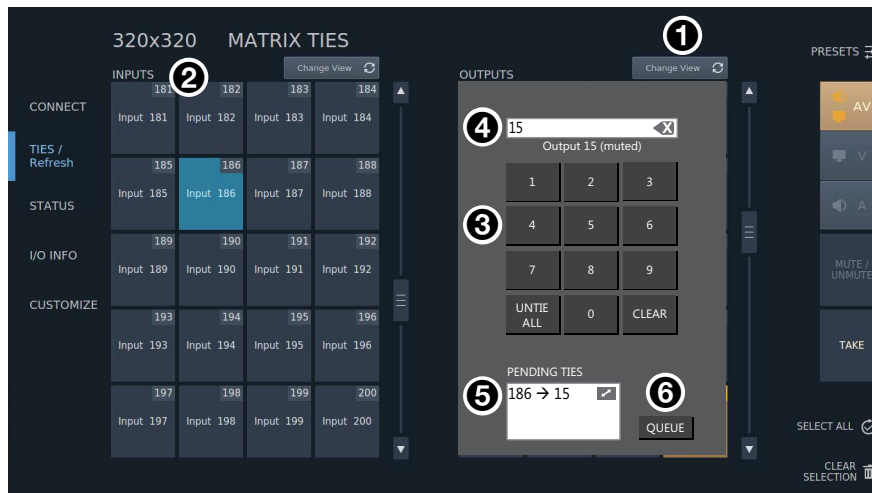

Figure 35. Change View – Outputs
Figure 35 shows the view when **Change View** for outputs (1) is pressed.